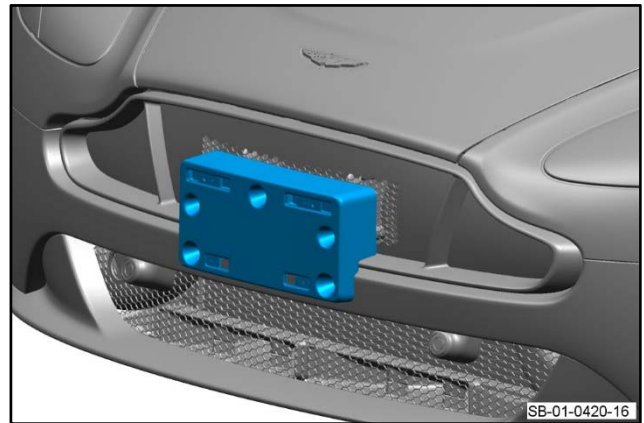

Figure 16
7. Put the license plate plinth into position (refer to Figure 16)